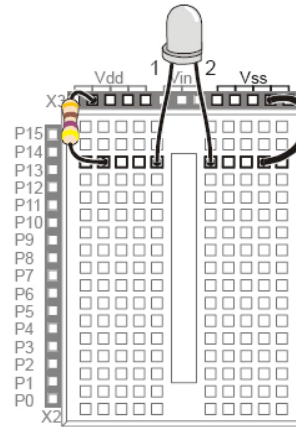

Fig 2.37: Bi-Color test circuit
- Build the circuit shown in figure 2.37 using a 470 Ω resistor and the Bi-Color LED.
The drawing and the schematic diagram of the normally open pushbutton that will be used in the coming experiments is illustrated in figure 2.37. We will use PB as a short for pushbutton for ease of use. As you can see, in the drawing the pushbutton has four pins numbered 1, 2, 3, and 4. Pins 1 and 4 are internally connected, and pins 2 and 3 are internally connected which explains why the schematic diagram has two pins only. The reason the pushbutton doesn't just have two pins is because it needs stability. If the pushbutton only had two pins, those pins would eventually bend and break from all the pressure that the pushbutton receives when people press it.